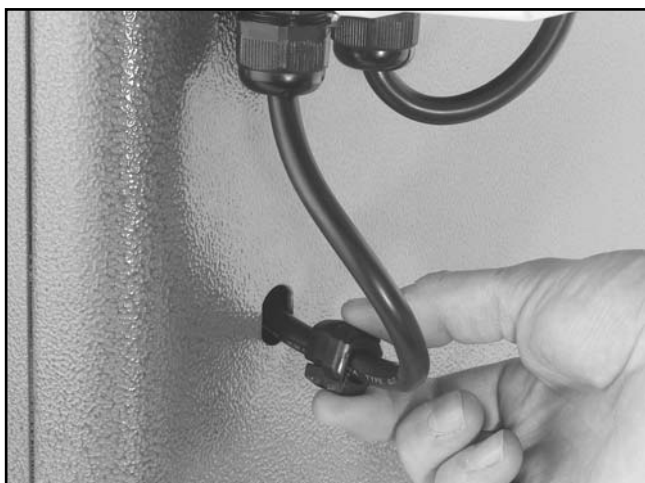

Figure 12. Installing grommet.
7. Snap fit the grommet into the opening as shown in **Figure 12**. Make sure there is enough slack in the wire between the switch and the grommet before snapping the grommet into position.